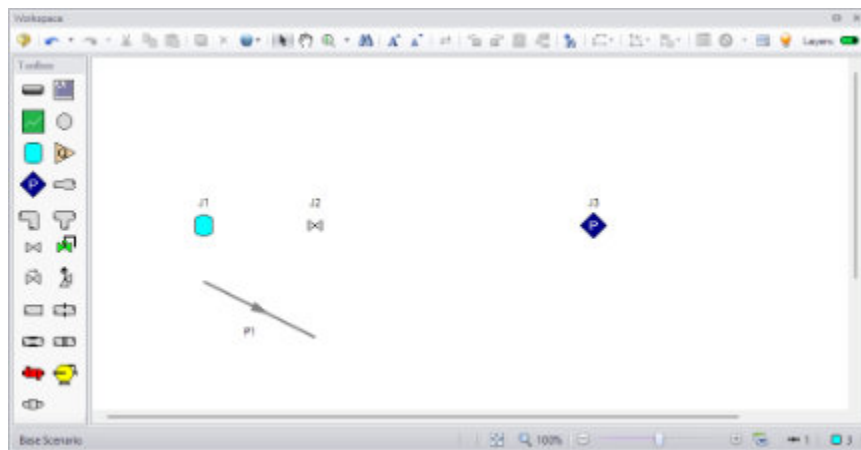

Figure 2.4c First pipe drawn
- **To create a pipe, click the Pipe Drawing Tool icon on the Toolbox.** The pointer will change to a crosshair when you move it over the Workspace. Draw a pipe near the junctions by clicking and dragging the mouse, similar to that shown in Figure 2.4c.